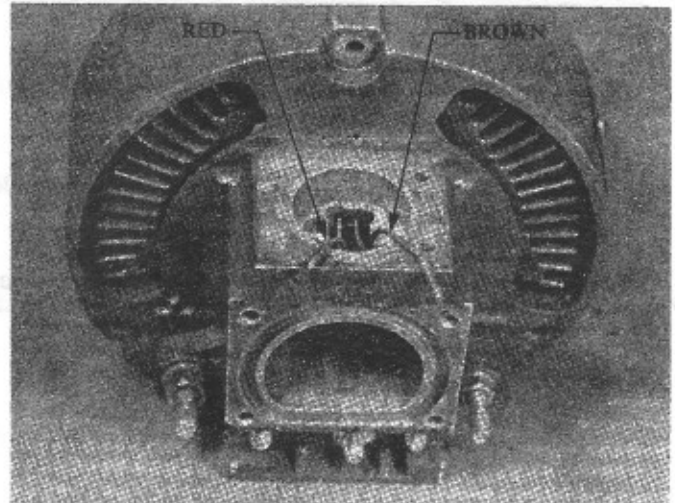

Figure 32
- 3.26 Route RED and BROWN leads through access hole in housing and pass them through the brush holder opening. Fig. 32.